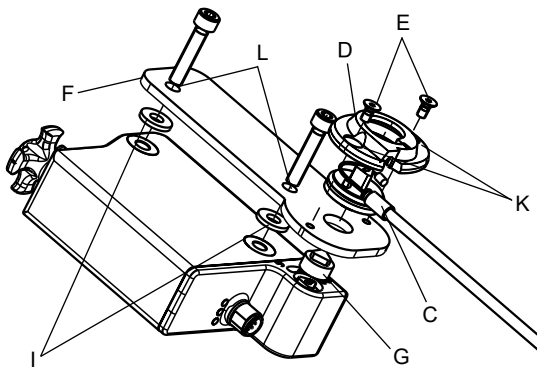

Figure 7
- Insert the protruding surface (triangle with arrow) in adapter cover D into the groove of hose fitting C (see Fig. 7).